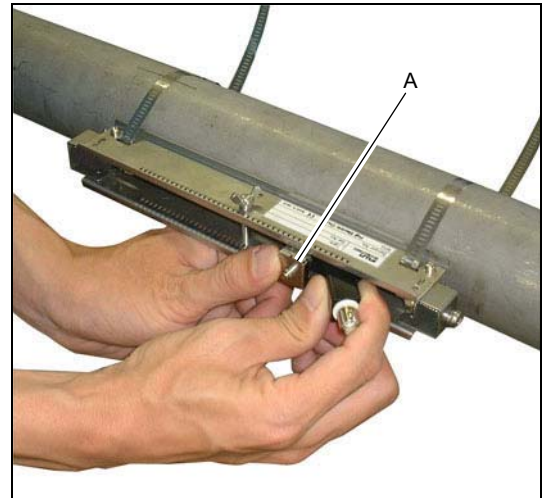
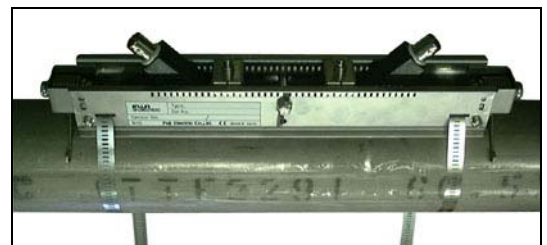

Fig. 5-12
Fig. 5-13
- (3) Then insert the sensor unit into the frame, align the slit provided on the pressing fixture of the sensor unit with graduations located on the frame top surface (see Fig. 5-12), and press the sensor unit until the fixture claws are engaged with the frame side square holes. Mount both sensor units so as to be roughly symmetrical with respect to the frame. (Refer to Fig. 5-13)